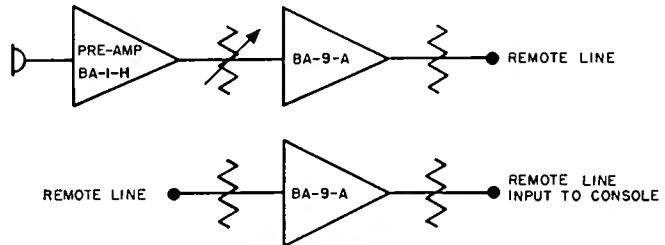

Fig. 3. Unattended Remote Operation
- a. **Permits unattended remote audio operation.** This amplifier used on an incoming remote line automatically controls level variations from an unattended remote amplifier. (See Fig. 3—Typical Applications.)